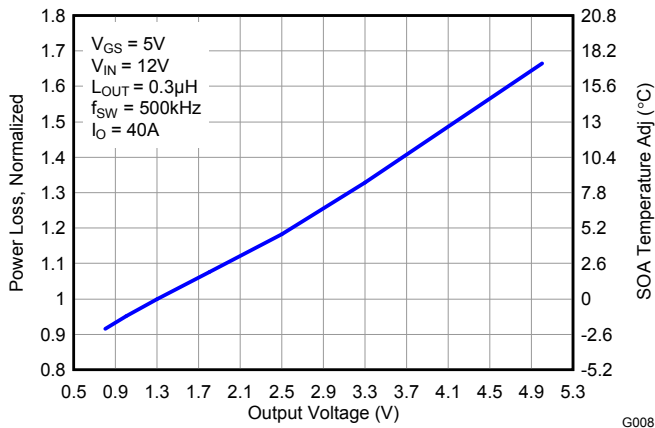

Figure 8. Normalized Power Loss vs. Output Voltage
- Normalized Power Loss for output voltage  $\approx 0.95$  (Figure 8)
- SOA adjustment for output voltage  $\approx -1.3^\circ\text{C}$  (Figure 8)